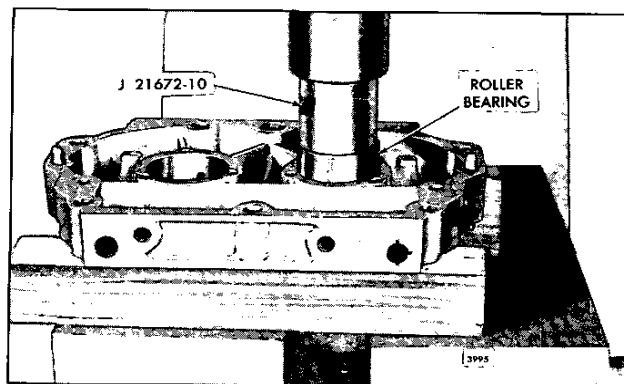

Fig. 13 - Installing Roller Bearing in Rear End Plate
- a. Support the rear end plate (inner face down) on two wood blocks on the bed of an arbor press as shown in Fig. 13.